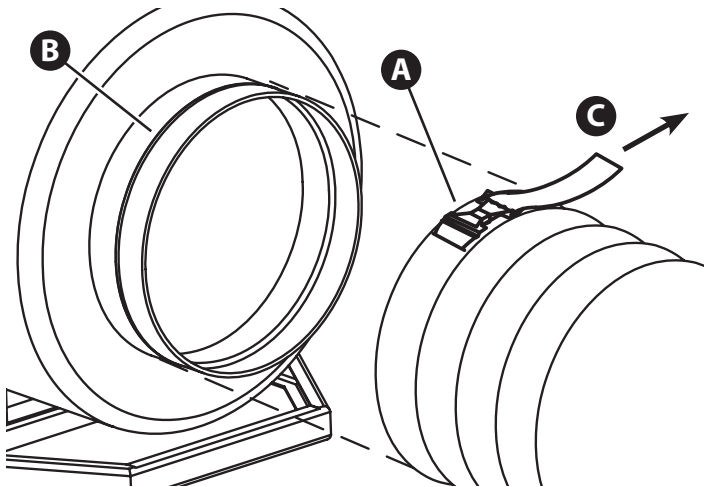

Figure 4.3
- Install the cuff of the flexible ducting with strap and clamp (A, Figure 4.3) over the heater unit outlet ring. Make sure that the cuff, strap and clamp are beyond the bead on the outlet ring (B).
- Tighten the cuff over the outlet ring by pulling on the loose end of the strap (C).